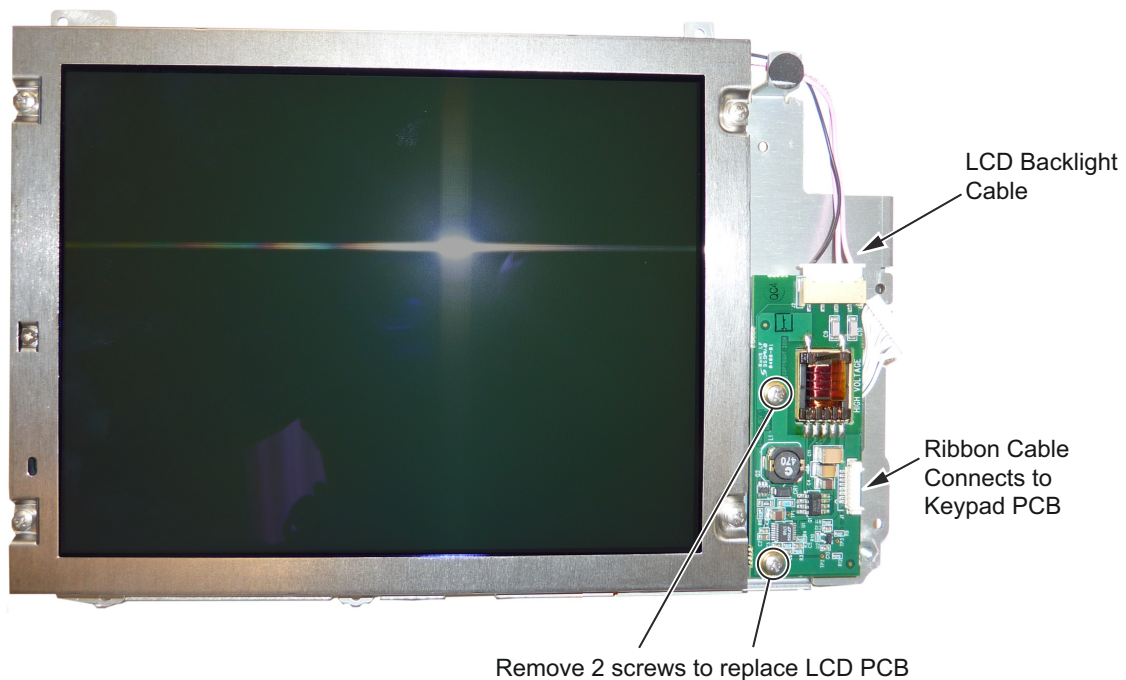

Figure 6-26. Replacing the LCD PCB
5. Use a Phillips screw driver to remove the two screws securing the LCD backlight PCB to the Main PCB assembly (Figure 6-26).